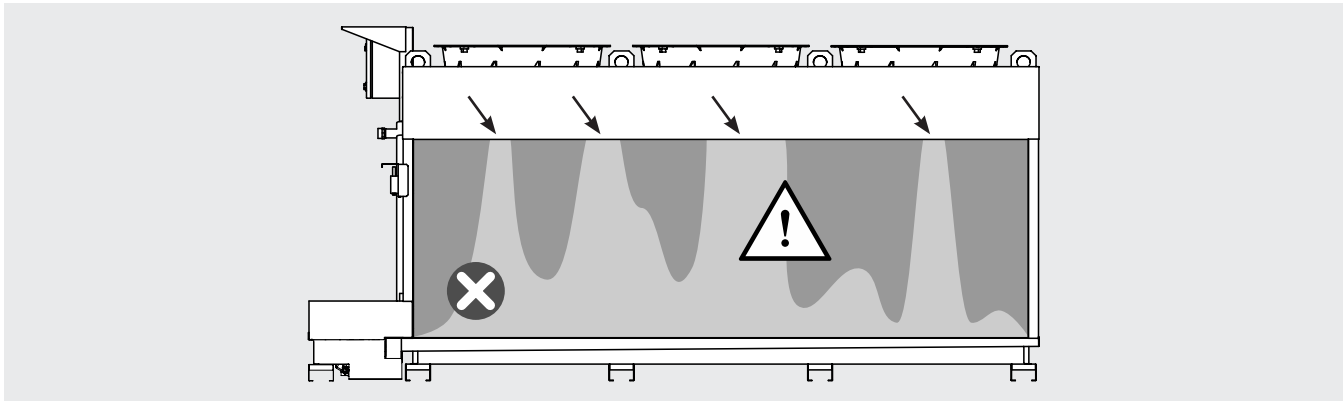

Figure 18
- 11.8 With the adiabatic system in operation, check that there is adequate water distribution on the panels: uniform darker colouring on at least 80% of the panel surface is acceptable. Please refer to point 12.32. See Figure 18 as an example of unacceptable colouring.
- 12.12.1 Carry out a visual inspection of the adiabatic water distribution system on the panels. An uneven distribution of water on the outer panel (uneven colouring of the panel, see Figure 18) can be attributed to a blockage of one or more quick-connect nozzles. An abnormal flow of water during operation of the adiabatic system can be attributed to one or more damaged nozzles. If necessary, replace them as follows.